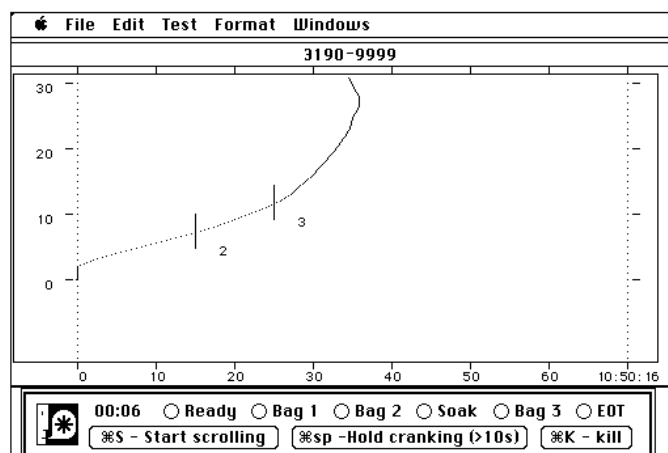

Figure 19
- 344 Start the test vehicle's engine according to the manufacturer's recommended starting procedures. If the test vehicle is in the Recall program, start the engine according to the technical directive. Follow the instructions in the control dialogue box at the bottom of the screen. To start scrolling, simultaneously press <Command-S> and crank the engine. See Figure 19.